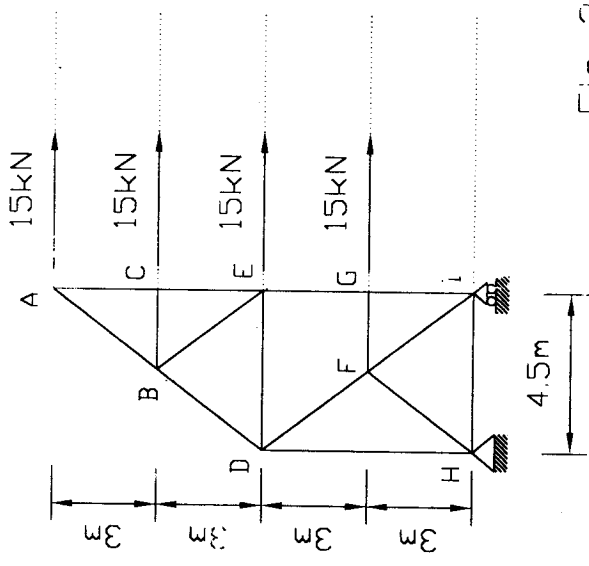

Fig 2
2. The bracket BCD (*Fig 2*) is hinged at C and attached to a control cable at R. For the loading shown, determine